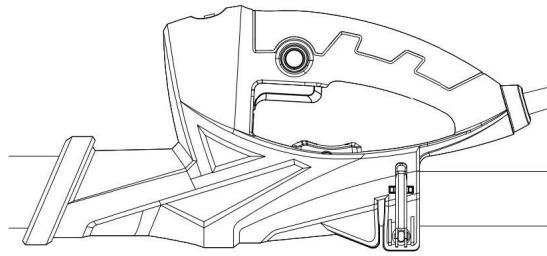

fig. 3
7. Lock on power switch (figure 3).